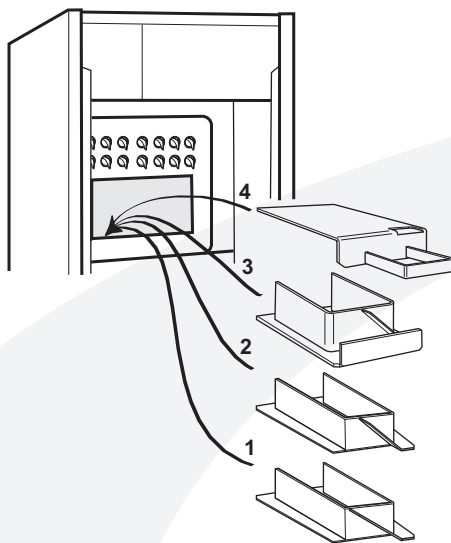

Figure 11-1: 15/21 baffles
2. Remove the baffles as shown in Figures 11-1, 11-2, 11-3 or 11-4.
6. Replace the baffles, ensuring they are correctly fitted. See Figures 11-1, 11-2, 11-3 or 11-4.